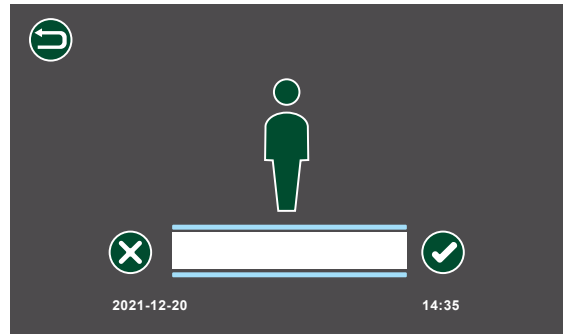

Figure 12. Patient Sample Measurement Screen
- A new page will appear. See Figure 12.